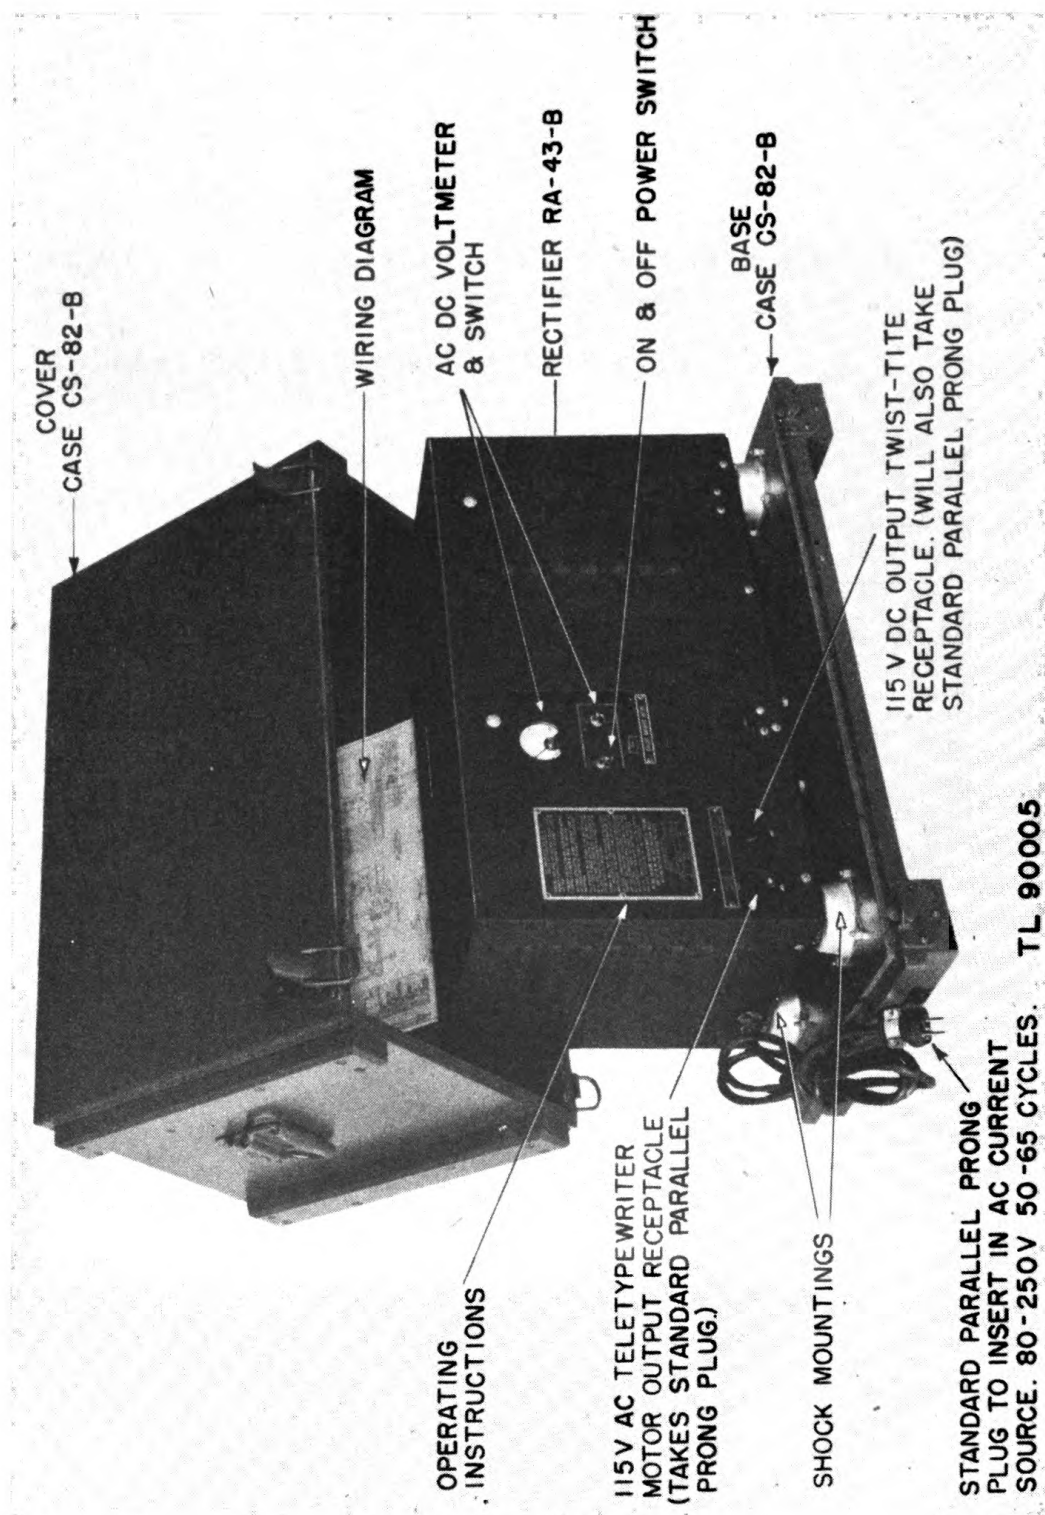
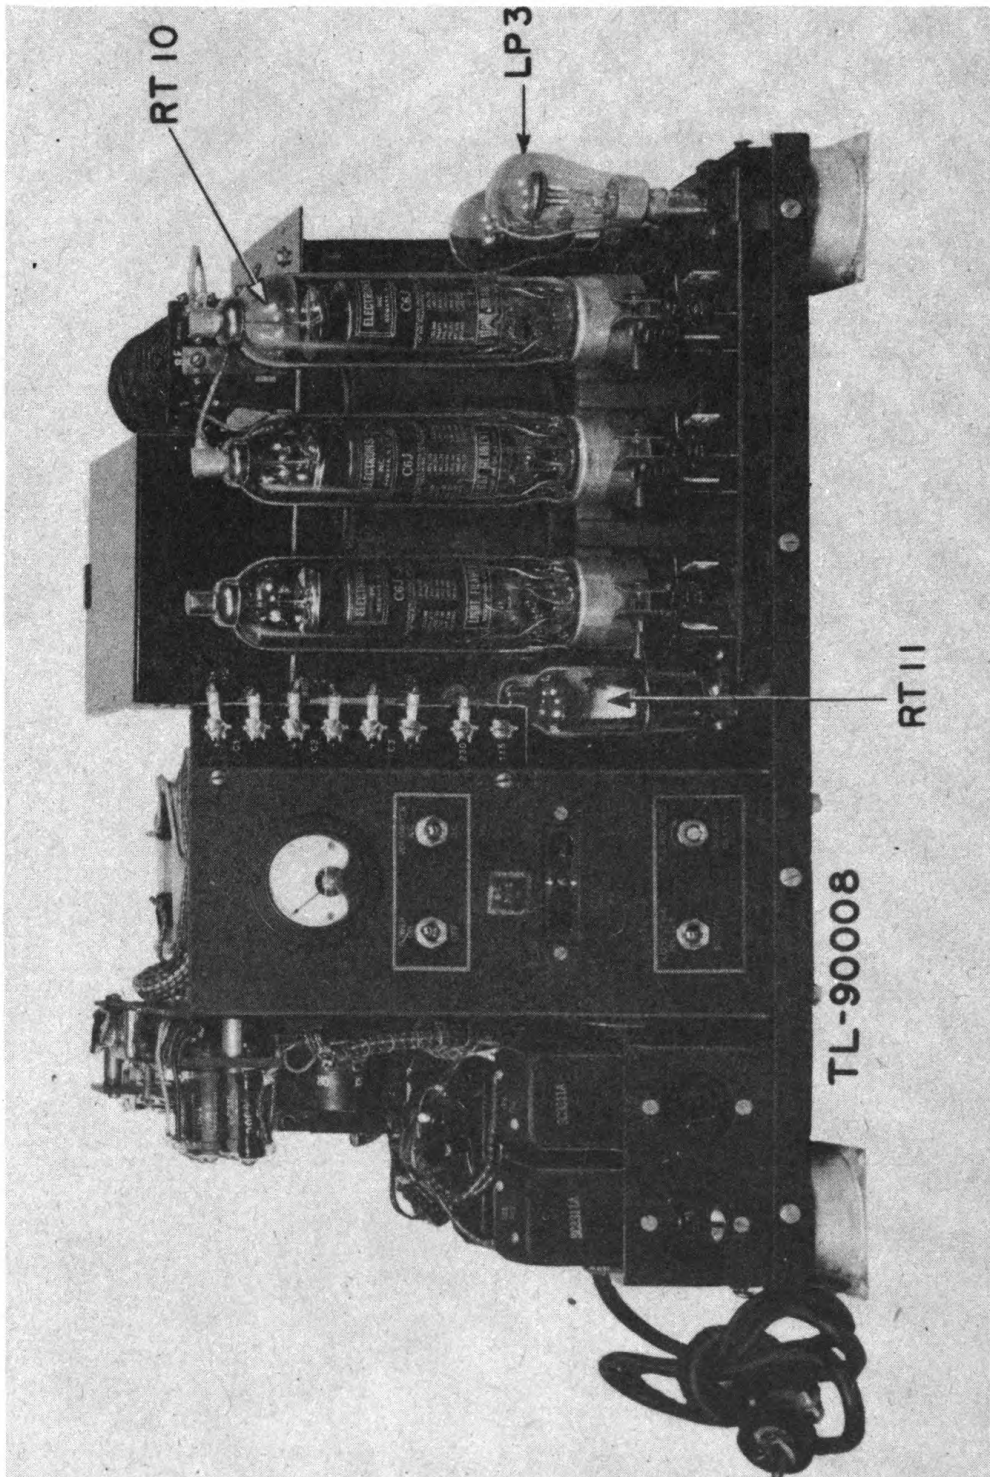

Figure 1. Rectifier RA-43-B, with portable carrying case CS-82-B.
Figure 4. Rectifier RA-43-B, front assembly view.
f. Operating parts are enclosed in a ventilated steel cabinet. The entire assembly is protected in transportation by a heavy plywood case fitted to the wooden base with fasteners (figs. 1 and 2).
b. Cover. The entire assembly is covered by a removable steel cover finished in black wrinkle and provided with ventilating louvres. A hinged door in the front of the cover (fig. 2) permits access to the tubes, adjustable taps, circuit breaker, etc. A cut-out in the door exposes the meter, power switch, and meter switch, which are the only accessible control parts during normal operation of the equipment (fig. 4). For output connections, a-c and d-c receptacles are provided in the lower left corner of the front cover. These are designated by a metal nameplate. A larger metal plate above the receptacles gives condensed operating instructions (fig. 1).
c. Electrical. (1) A-c power is converted to d-c by two grid-controlled, gas-filled triode tubes (type C6J) connected in a full-wave rectifying circuit. The filaments of the tubes are preheated before plate voltage is applied. A thermostatic or bimetal switch is used to provide the required time delay. The pulsating d-c output current from the tubes is filtered by a choke and a bank of three electrolytic capacitors. This reduces the hum or ripple voltage to a low value.
(2) The d-c output voltage is held within plus or minus 5 volts over the ranges of input voltage, frequency, and load (pars. 2*a* and *b*) by a circuit employing a neon voltage regulator tube (LP 3), a type 6F6G amplifier tube (RT 11), and a resistor network. This circuit controls the grid voltages of the rectifier tubes.
(3) A spare tube of each of the three types used is supplied and is mounted in a standard socket located on the tube socket sub-base (figs. 4 and 10).
a. Case CS-82-B (fig. 1) is constructed of heavy plywood finished in dull olive drab, and is designed for field service. It has four substantial catches to secure it to the reinforced wooden base on which Rectifier RA-43-B is mounted, and is equipped with two metal carrying handles.
- (1) See that the line tap (flexible lead with spade lug) is connected to the 230-volt terminal.
- (2) Plug in the a-c cord and turn on the circuit breaker and the POWER switch.
- (3) Read the voltmeter, and multiply the scale reading by 2. If the meter reads 110, the actual line voltage is 220. If the meter reads 55, the actual line voltage is 110.
- (4) If the reading is within the range of 100 to 125 (corresponding to an actual line voltage of 200 to 250) leave the line tap on the 230-volt terminal.
- (5) If the meter reads between 50 and 62.5 volts (corresponding to a line voltage of 100 to 125) change the line tap as described in sub-paragraph *d* below.
c. If the supply-line voltage is 200 to 250 volts, see that the line tap (spade lug) is on the terminal marked 230. This is the normal factory connection when shipped (figs. 4 and 11).
d. If the supply-line voltage is 100 to 125 volts, loosen the screws in the terminals marked 230 and 115 and transfer the spade lug to the 115 terminal. Tighten both terminal screws. Do not disturb the upper six terminals marked + or — (figs. 4 and 11).
e. Place toggle switch AC VOLTAGE in upper position, 110-125 (fig. 4).
f. Place toggle switch POWER in lower position, OFF (fig. 4).
b. Place POWER switch in upper position, ON, being careful not to touch any of the exposed connections on the terminal strip or tubes while the cabinet door is open (fig. 4).
c. Note the reading of the voltmeter. If it is between 100 and 125, proceed with the next step (subpar. *d* below). If the meter reads between 80 and 100 and if the line tap (pars. 7*c* and *d*) is on the terminal marked 115, place the toggle switch A.C. VOLTAGE in the lower position, 80-100 (fig. 4).
e. Depress the toggle switch VOLTMETER to the lower position, D.C., and read the meter (fig. 4). There will be no indication if the time-delay switch has not closed. The voltmeter switch is a nonlocking type, and will return to the upper position when released.
f. If the meter reads 115 volts (red mark on scale) no further adjustment is necessary. If not, turn screwdriver control D.C. VOLTAGE, while continuing to depress VOLTMETER switch until meter reading is adjusted to 115 (fig. 4). Remove screwdriver from slot in control, and note meter reading again to see that reading has not been changed by accidental misadjustment. Release VOLTMETER switch. If the neon lamp has been removed from its socket and reversed in position 180° during unpacking or otherwise, it may be necessary to readjust the D.C. VOLTAGE control, since the electrodes in the neon lamp are not identical in operation. In general, best operation is obtained when the upper electrode is aglow. If the lower electrode of the neon lamp is aglow, rather than the upper, turn the POWER switch off and remove the a-c line plug from its receptacle. Remove the neon lamp from its socket (press down and turn to the left), turn it halfway around so the terminals on the base of the tube are reversed in position. Then replace it in the socket. Replace the a-c line plug, turn on POWER switch and readjust voltage as described above.
(1) After turning on the POWER switch there will be no d-c output voltage from the rectifier for about 55 to 75 seconds (at 70°). This is because the time-delay micro switch does not close until the bimetal strip is sufficiently heated. This prevents application of plate voltage to the RT-10 rectifier tubes until they have had time to preheat. If d-c output voltage is available in less than 45 seconds after turning on the POWER switch (as shown by the voltmeter when the VOLTMETER toggle switch is depressed) adjustment should be made as described in paragraph 10.
(2) The two active RT-10 rectifier tubes will glow with a purple color, caused by ionization of the gas with which they are filled. This will not be